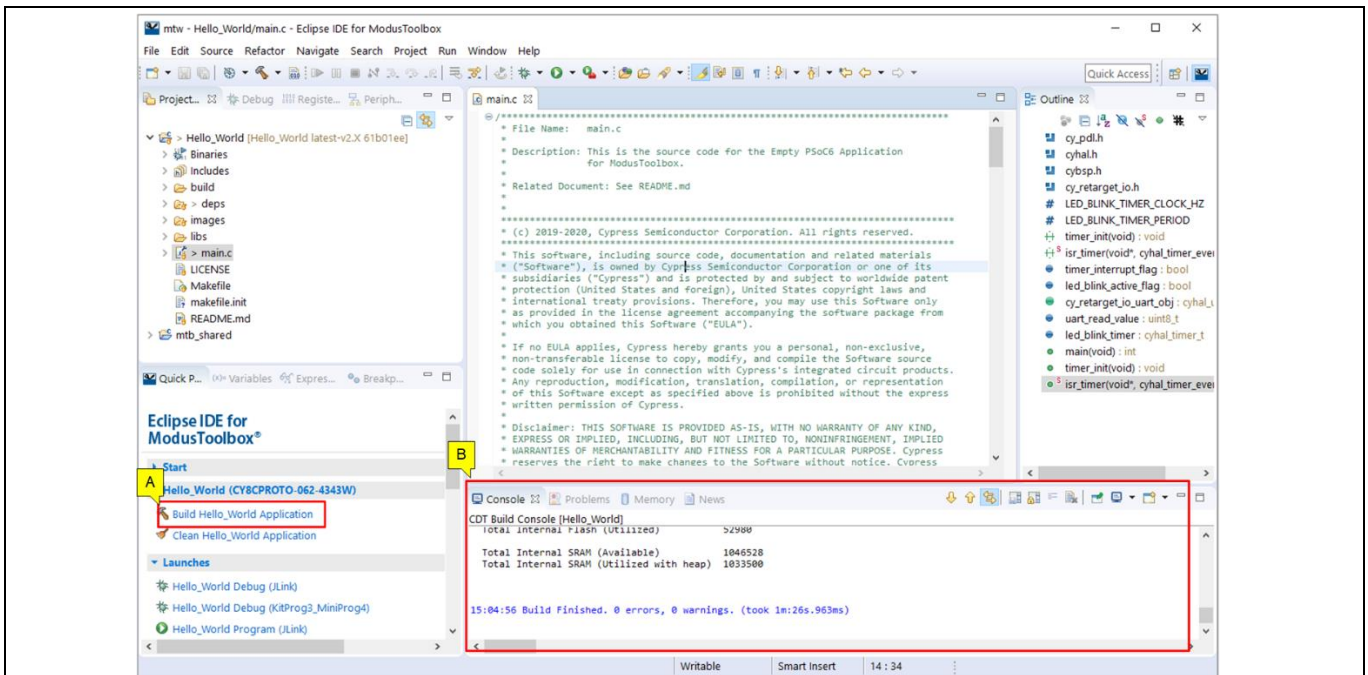

Figure 14 Build the application
- The **Console** view lists the results of the build operation, as **Figure 14** shows.